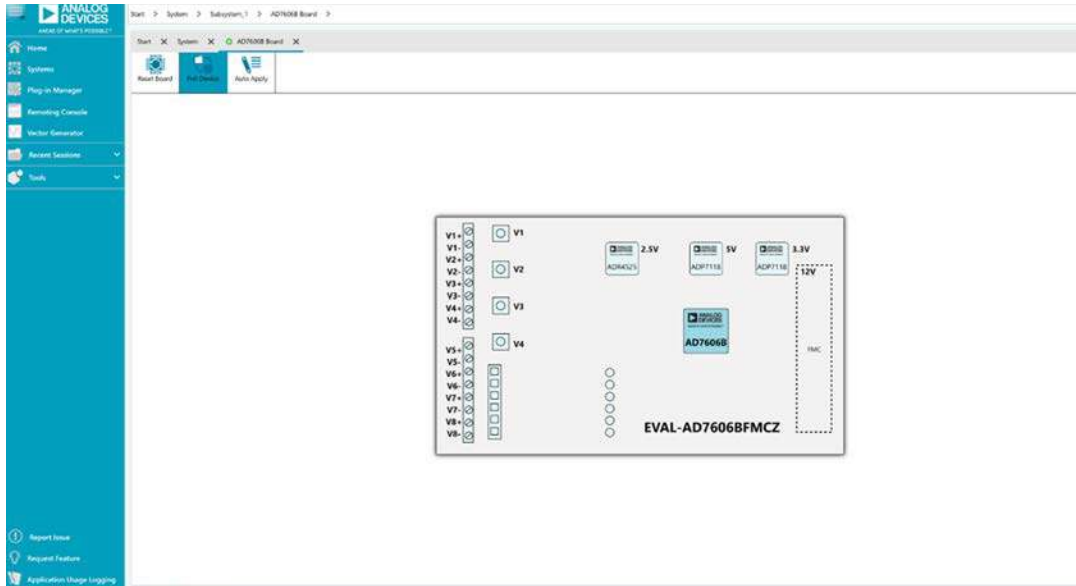

Figure 11. Board View
4. Double-click the **AD7606B** chip icon to access the window shown in Figure 11.